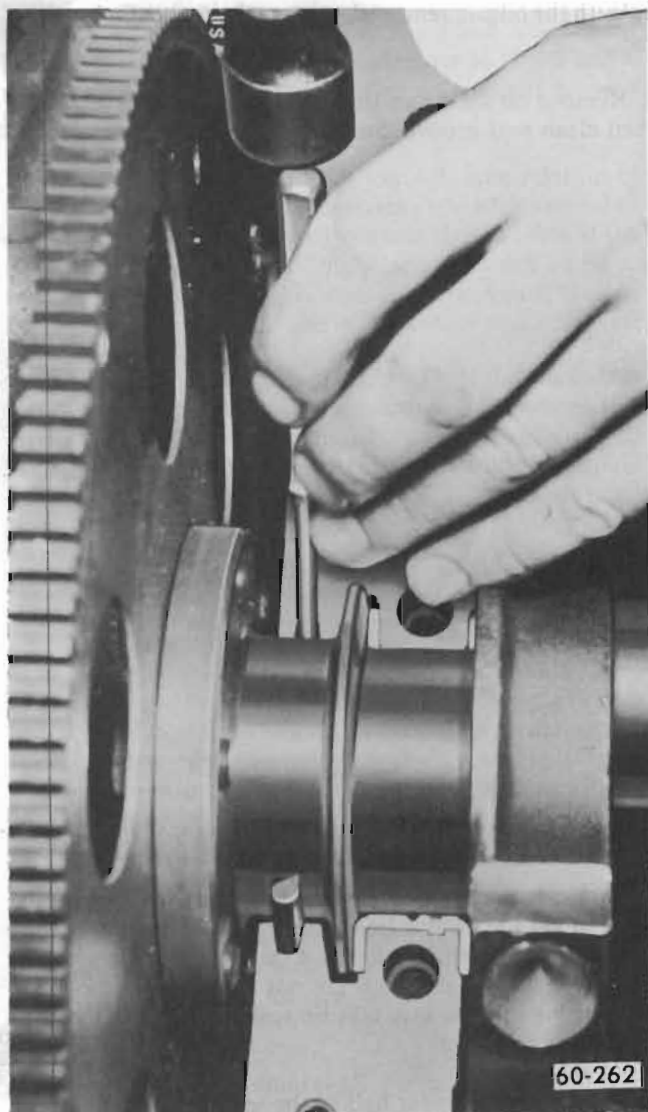

Figure 60-28 - Removing Rear Main Oil Seal (Upper)
4. To remove the upper half of the seal, use a small hammer to tap a brass pin punch on one end of seal until it protrudes far enough to be removed with pliers. See Figure 60-28.